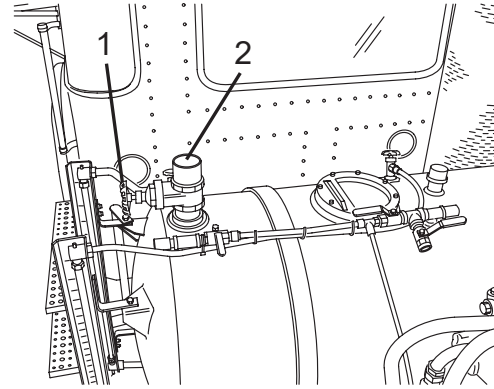

Figure 107
2. Open the chemical tank gate valve (Figure 107, Item 1) and add the chemical through the inlet (Figure 107, Item 2).